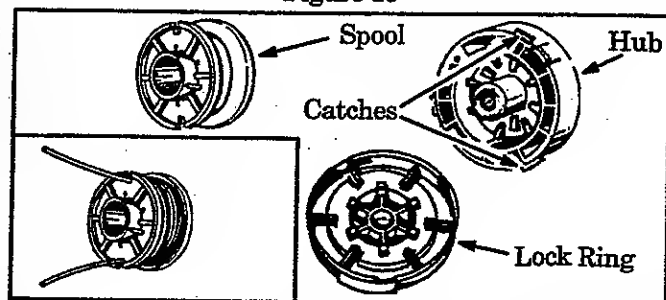

Figure 16
- b. Remove lock ring and spool. Figure 16.
- g. Check to make sure all three catches (Figure 16) and the lock tab (Figure 17) are properly fastened. Figure 18. Then test the Lock ring by trying to turn it counterclockwise.